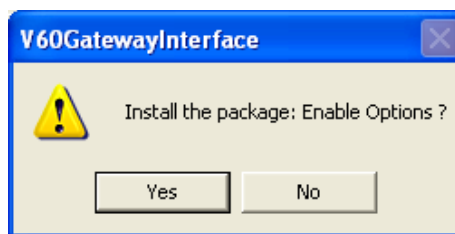

Figure A-11: Confirmation Screen
7. At the confirmation screen, click **Yes** to continue the option installation or **No** to exit (Figure A-11).